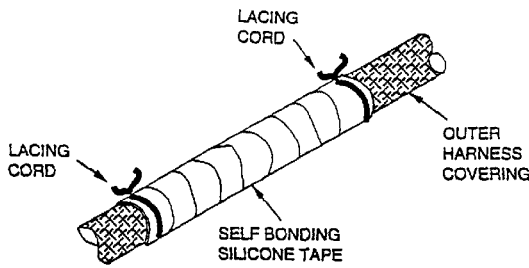

Figure 32. Securing Overbraided Tape
- m. Secure ends of tape with lacing cord (Figure 32).